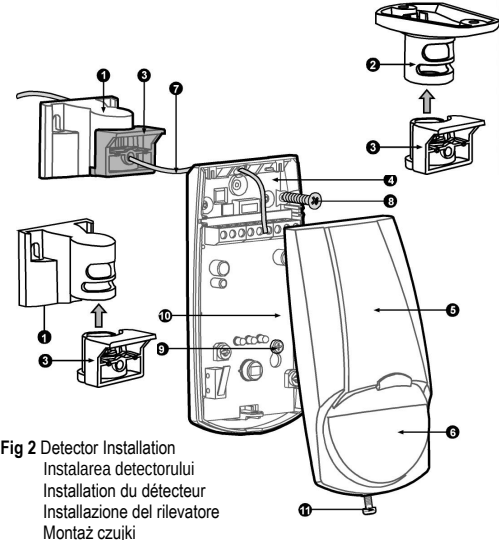

Fig 2 Detector Installation
- Remove the PC board by unscrewing the holding screw located on the board.(Fig. 2- 9)